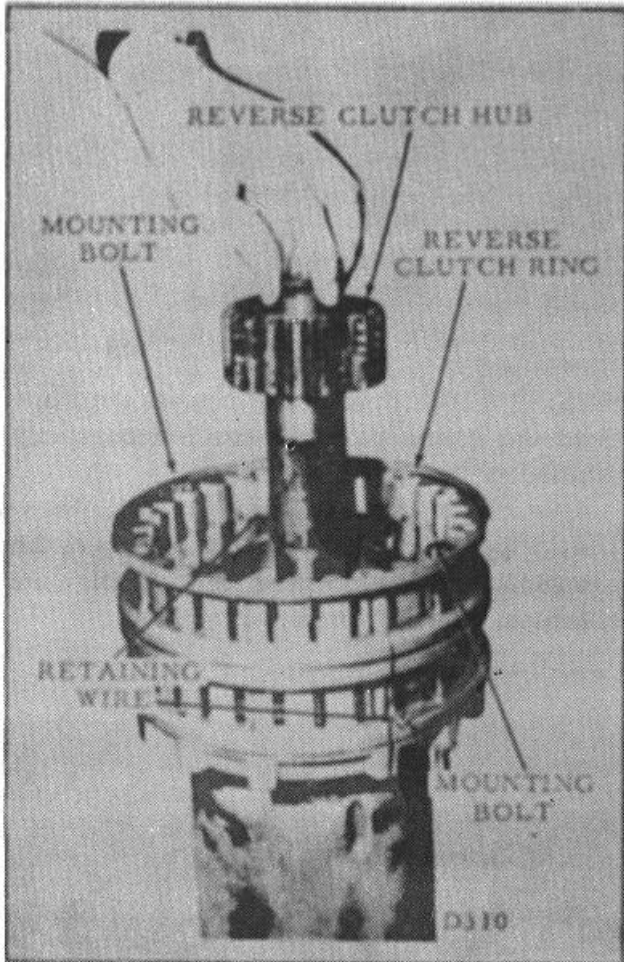

Figure 28.
7. Position the reverse clutch ring on top of the pressure plate. Align the bolt holes and hold them in alignment with two mounting bolts. Compress the forward clutch pack together by applying pressure to the reverse clutch ring; retain the pack in this position with two wires placed 180° apart. Lower the reverse clutch hub into the center of the assembly. (Fig. 28)